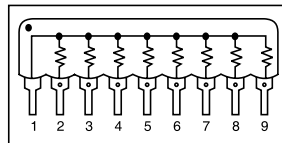

Fig. 57: SIL/SIP 8-resistor network
**8. SIL (single-in-line)/SIP (single-inline-pins) RNW (resistor network):** This is one of the more popular resistor configurations for saving space on a PCB, when one side of each resistor is to be connected to a common point (e.g., ground or positive or negative rails) and the resistors are of equal value, e.g., 100-kilo-ohm each. The normal wattage is 1/8W. The pin-to-pin spacing is again 2.54 mm (0.1"). For 8-resistor NW, there are 9 pins, as shown in Fig. 57. Pin 1, marked with a black circle or tapered end, depicts the common pin.